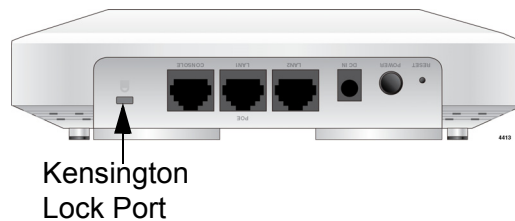

Figure 16. Kensington Lock Port Location
1. Follow the instructions provided with the vendor's anti-theft device packaging for the installation. Refer to Figure 16 for the Kensington lock port's location.